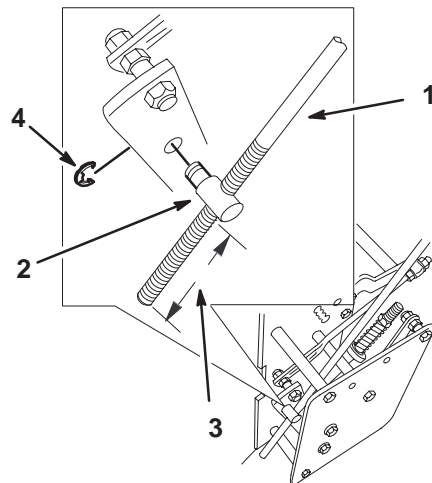

Figure 5
1. For a starting point, make sure the rod fittings are threaded approximately 2-1/2 inches (63 mm) onto the control rods (Fig. 5).
2. Install the rod fittings into the and secure them with E-rings (Fig. 5).